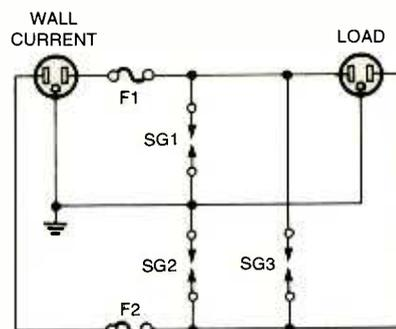

Fig. 1. A surge protector using homemade spark gaps will be slow to react and unpredictable in operation.
**Q** I had a modem destroyed by a lightning strike and decided to build a surge suppressor. I wanted to avoid metal-oxide varistor (MOV) devices because they wear out, so I built a circuit that uses spark gaps instead (see Fig. 1). It costs almost nothing. The spark gaps are made from bus wire, bent so that the spacing is the thickness of a sheet of paper, corresponding to about a 300-volt breakdown.—D. H., Rindge Center, NH